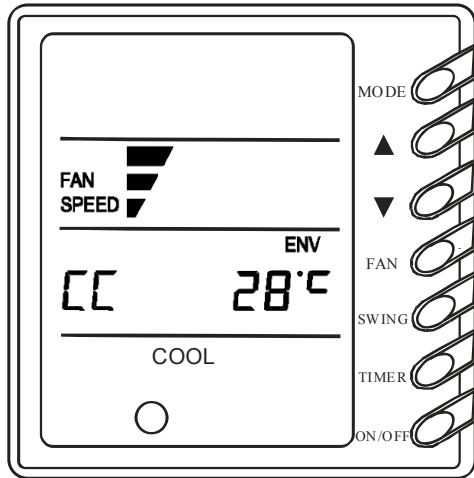

Fig.10
- While a centralized controller is connected (Fig.10)
(1) An address code of long-distance monitoring can be set to the wired controller and the main-board.
(2) Press **MODE+▲** for 5 seconds in the **OFF** status to enter the address-writing menu.(Fig.10), then the present address code will flickeringly display at the **TIMER** location (the default code is 0), and **"DEBUG"** will also flickeringly display at the same time. Press **▲ + ▼** to choose the address code with the range of 1~2999. Press **ON/OFF** to confirm, then if the address code stop flickering, it means the code of the wired controller is successfully written; if **"DEBUG"** stop flickering that means the code of the mainboard is successfully written.
(3) If there is no operation within 20 seconds, the menu will automatically exit, or else press the button **"MODE+▲"** for 5 seconds to exit.